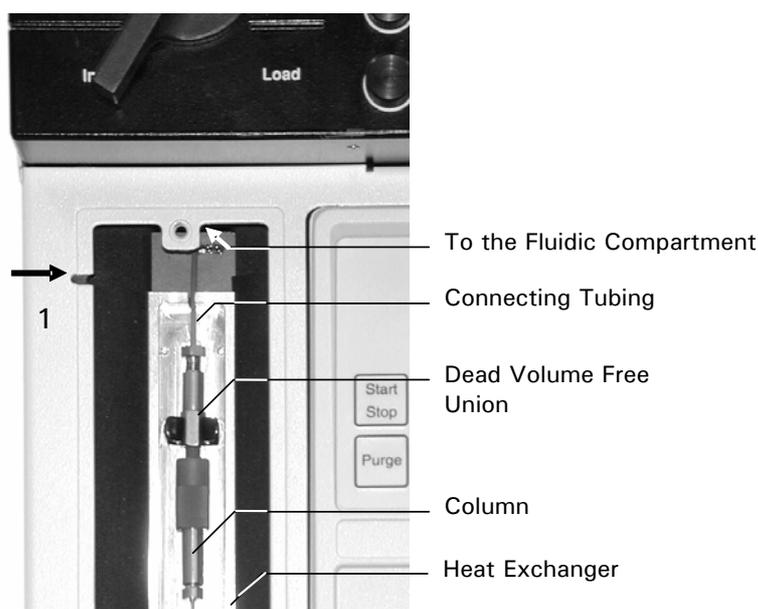

FIGURE 2-43 Installing of a 180 µm – 800 µm Column in the UltiMate Oven
When installing a Nano column, use one of the slots around the oven cover plate to keep the connection as short as possible (e.g. item 1, FIGURE 2-43)
- Install the column in the column compartment (FIGURE 2-43).
- b) Install the column in the column compartment (FIGURE 2-43).